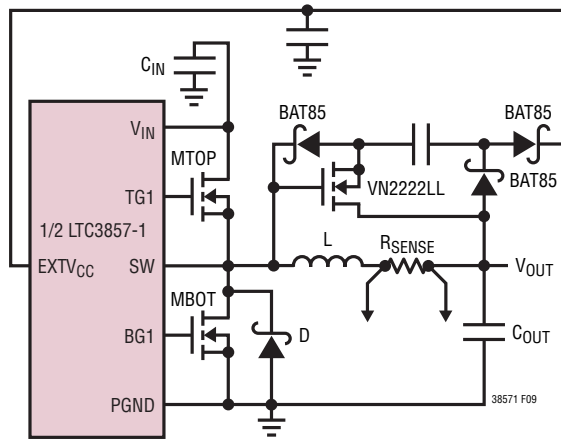

Figure 9. Capacitive Charge Pump for EXTV_{CC}
4. $EXTV_{CC}$ Connected to an Output-Derived Boost Network. For 3.3V and other low voltage regulators, efficiency gains can still be realized by connecting $EXTV_{CC}$ to an output-derived voltage that has been boosted to greater than 4.7V. This can be done with the capacitive charge pump shown in Figure 9. Ensure that $EXTV_{CC} < V_{IN}$.